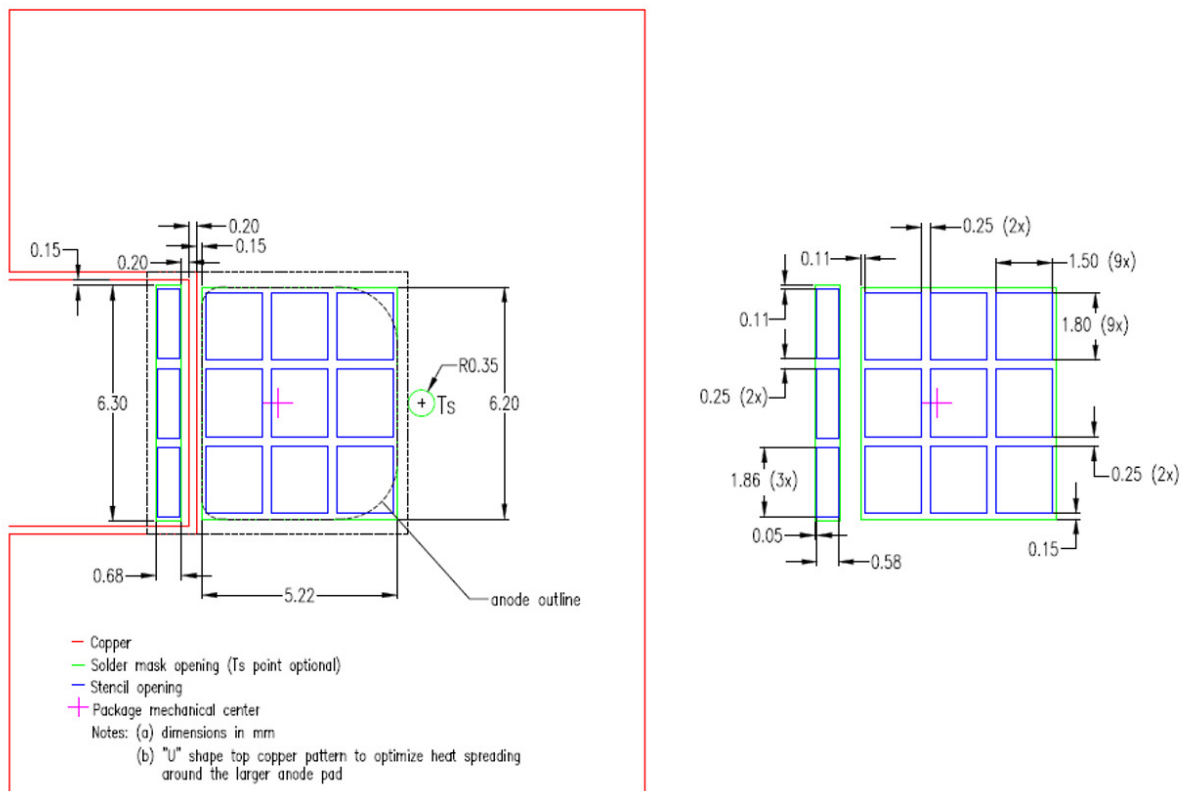

Figure 3a. Recommended PCB footprint showing solder mask and stencil opening for LUXEON 7070. Dimensions are in mm.
The recommended PCB footprint design for the LUXEON emitter is shown in Figures 3a and 3b. In order to ensure proper heat dissipation from the emitter to Al-MCPCB for example, it is best to extend the top copper layer of the thermal pad of the PCB beyond the perimeter of the LUXEON emitter outline by 7mm or more. For optimum heat conduction, the top copper layer has "U" shape around the large anode pad which also functions as a thermal pad.
The recommended location of the sensor pad is shown in Figure 3a and Figure 5. To ensure accurate readings, the thermocouple (TC) tip must make contact to the top copper of the PCB onto which the LUXEON 7070 anode (thermal) pad is soldered, i.e. any solder mask or other masking layer must first be removed before mounting the TC onto the PCB. The tip of the TC wire should be placed as close as possible to the LUXEON emitter package.